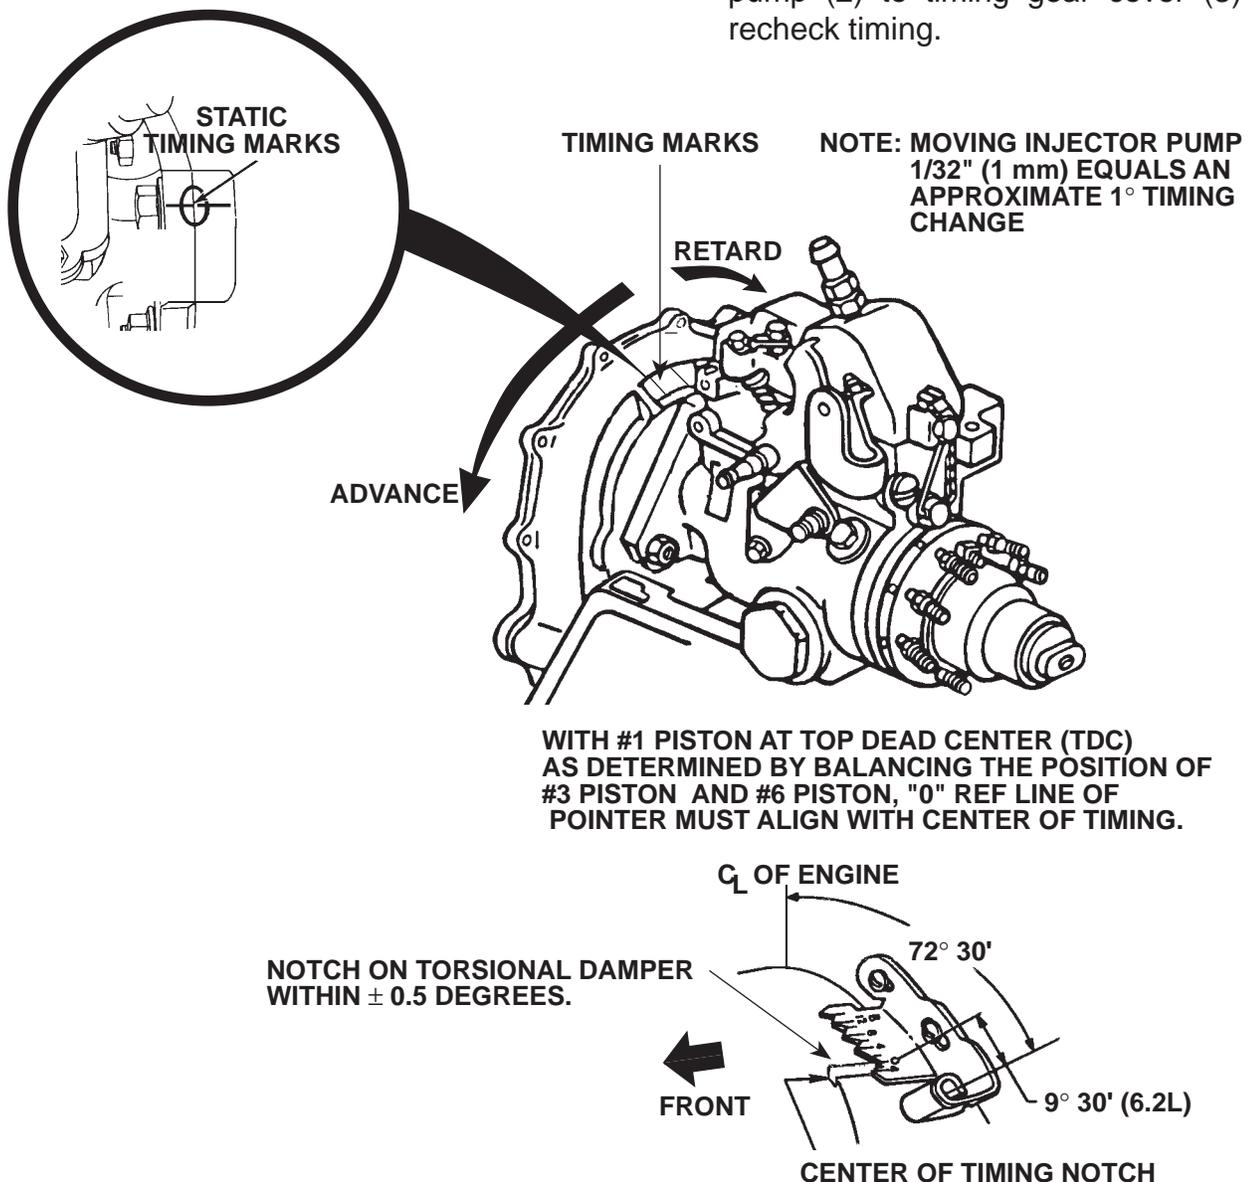

Figure 4-6. Timing Adjustment.
**c. Injection Pump Timing Adjustment TACH-N-TIME (Figure 4-6)**